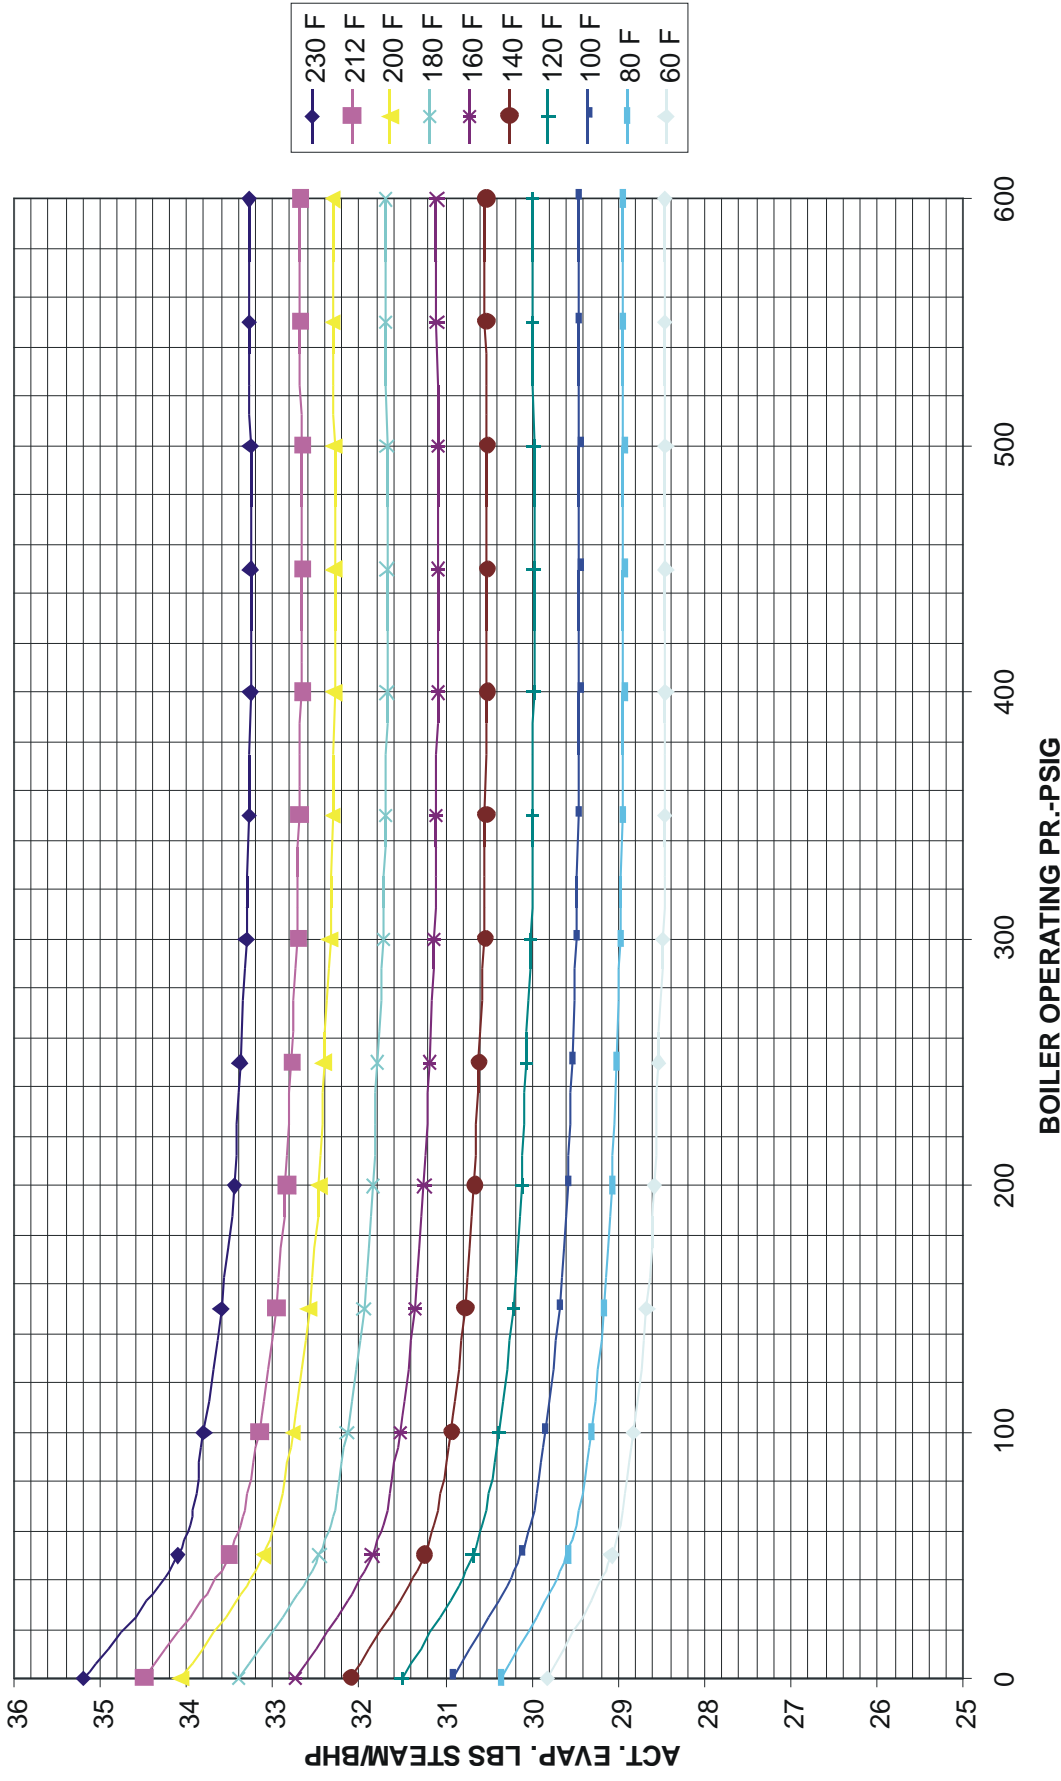

Figure 9. Factors of Evaporation
- 8.2** Actual evaporation rates or steam output, depend upon the feedwater (water entering the boiler) temperature and the boiler operating pressure. To determine your actual evaporation refer to Figure 9 and follow the example below.
If you have a 300 BHP boiler operating at 100 psig with 200°F feedwater, enter Figure 9 at the 100 psig point and proceed upward until that grid intersects the curve for 200°F feedwater. Read the scale at left which indicates an actual evaporation of 32.8 pounds of steam per boiler horsepower. Multiplying by 300 BHP equals 9840 pounds of steam. This means that the actual evaporation for a 300 BHP boiler operating at 100 psig is 9840 pounds of steam per hour when the feedwater temperature is 200°F.